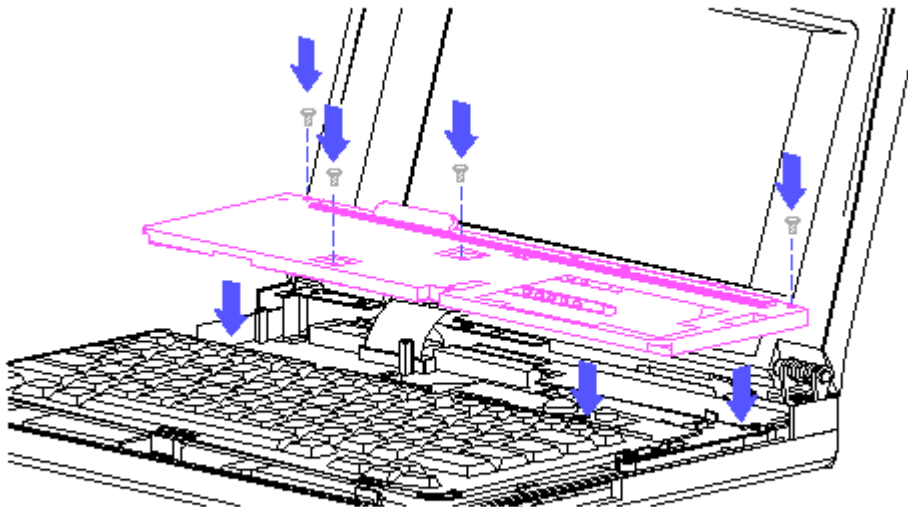

Figure 2-9. Replacing the Sheet Metal Cover
1. Position the sheet metal cover over the portion of the processor board that houses the modem, expanded memory board, and real-time battery (Figure 2-9).